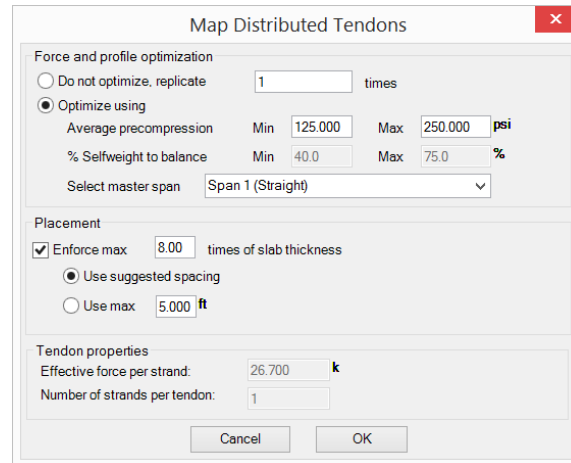

Figure 5.4-3 - Dialog Window for Mapping Distributed Tendons
- Click on the  map distributed tool. The dialog window shown in **Fig. 5.4-3** opens. The layout can either be optimized based on average precompression and percent of balanced self-weight or simply replicated by a given number input by the user. The option is also given to define the parameters by which the spacing should be determined. If do not optimize is selected, the total number of tendons will be one more than the number of spaces you enter in the data field of this dialog window.